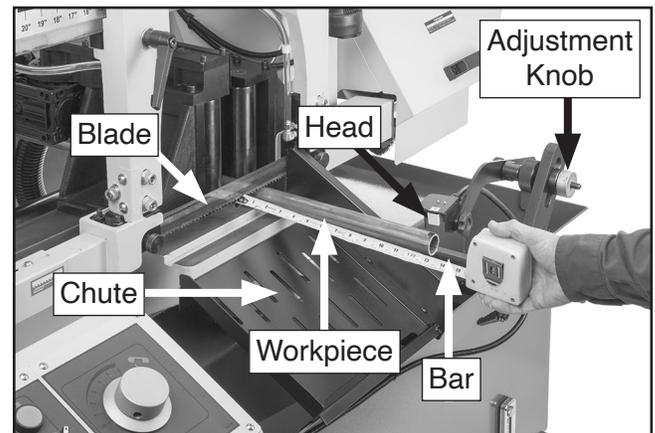

Figure 48. Example of proximity sensor set to cut 13" lengths of pipe.
The proximity sensor (see **Figure 48**) on the Model G0886 functions as a work stop in manual operation mode and as a work stop and trigger for the feed system in auto operation mode. It can be set for repetitive cutting operations up to 16" long.
There are three components to the proximity sensor. The head (see **Figure 48**) detects the presence of metal materials within a $\frac{5}{16}$ " range. The bracket and bar allow the sensor head to be positioned to accommodate a variety of workpiece shapes and sizes. The adjustment knob moves the sensor bracket and head in fine increments to ensure exact cut lengths.
The cutoff chute (see **Figure 48**) must be installed when using the proximity sensor. Processed material needs to be quickly removed from the area for the proximity sensor to function correctly.
7. Extend workpiece past blade the same length of pieces needed. Measure from outside of blade to end of workpiece, as shown in **Figure 48**.
9. Position proximity sensor so arrow on sensor head points directly at end of workpiece, as shown in **Figure 48**. Sensor head needs to be within $\frac{5}{16}$ " of material for detection.